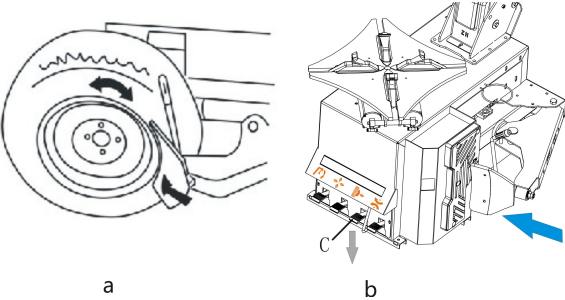

Fig. 13
- * Place the wheel between the rubber support and bead breaker, move the plate to the bead(Fig. 13-a) and press the bead breaking control pedal C(Fig.13-b).